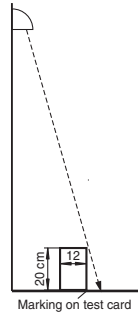

Figure 3.6 Positioning the test specimen
6. Rest the test specimen to the marking on the side of the door (cf. Figure 3.6).